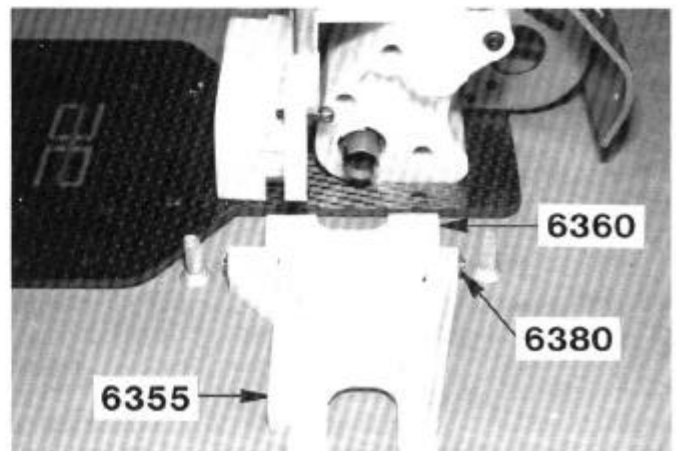
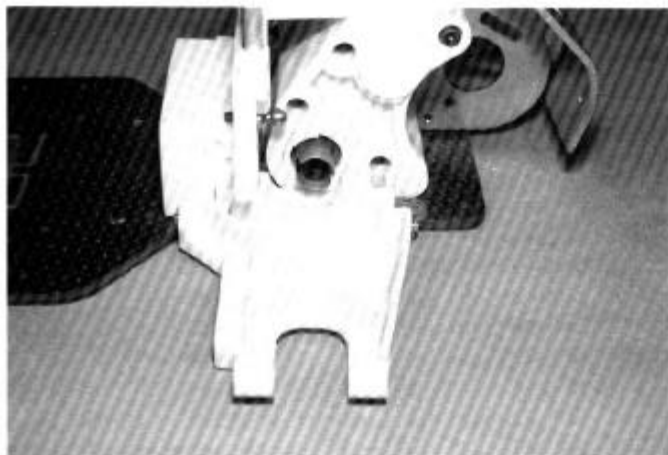

**FIG. 96**
**FIG. 98**
□ **FIG. 96**—All six of these screws should be a little loose still.
□ **FIG. 98**—Mount the transmission brace to the transmission and to the bulkhead as shown and tighten the four screws. NOW TIGHTEN the six screws shown in Fig. 96. DO NOT OVERTIGHTEN.